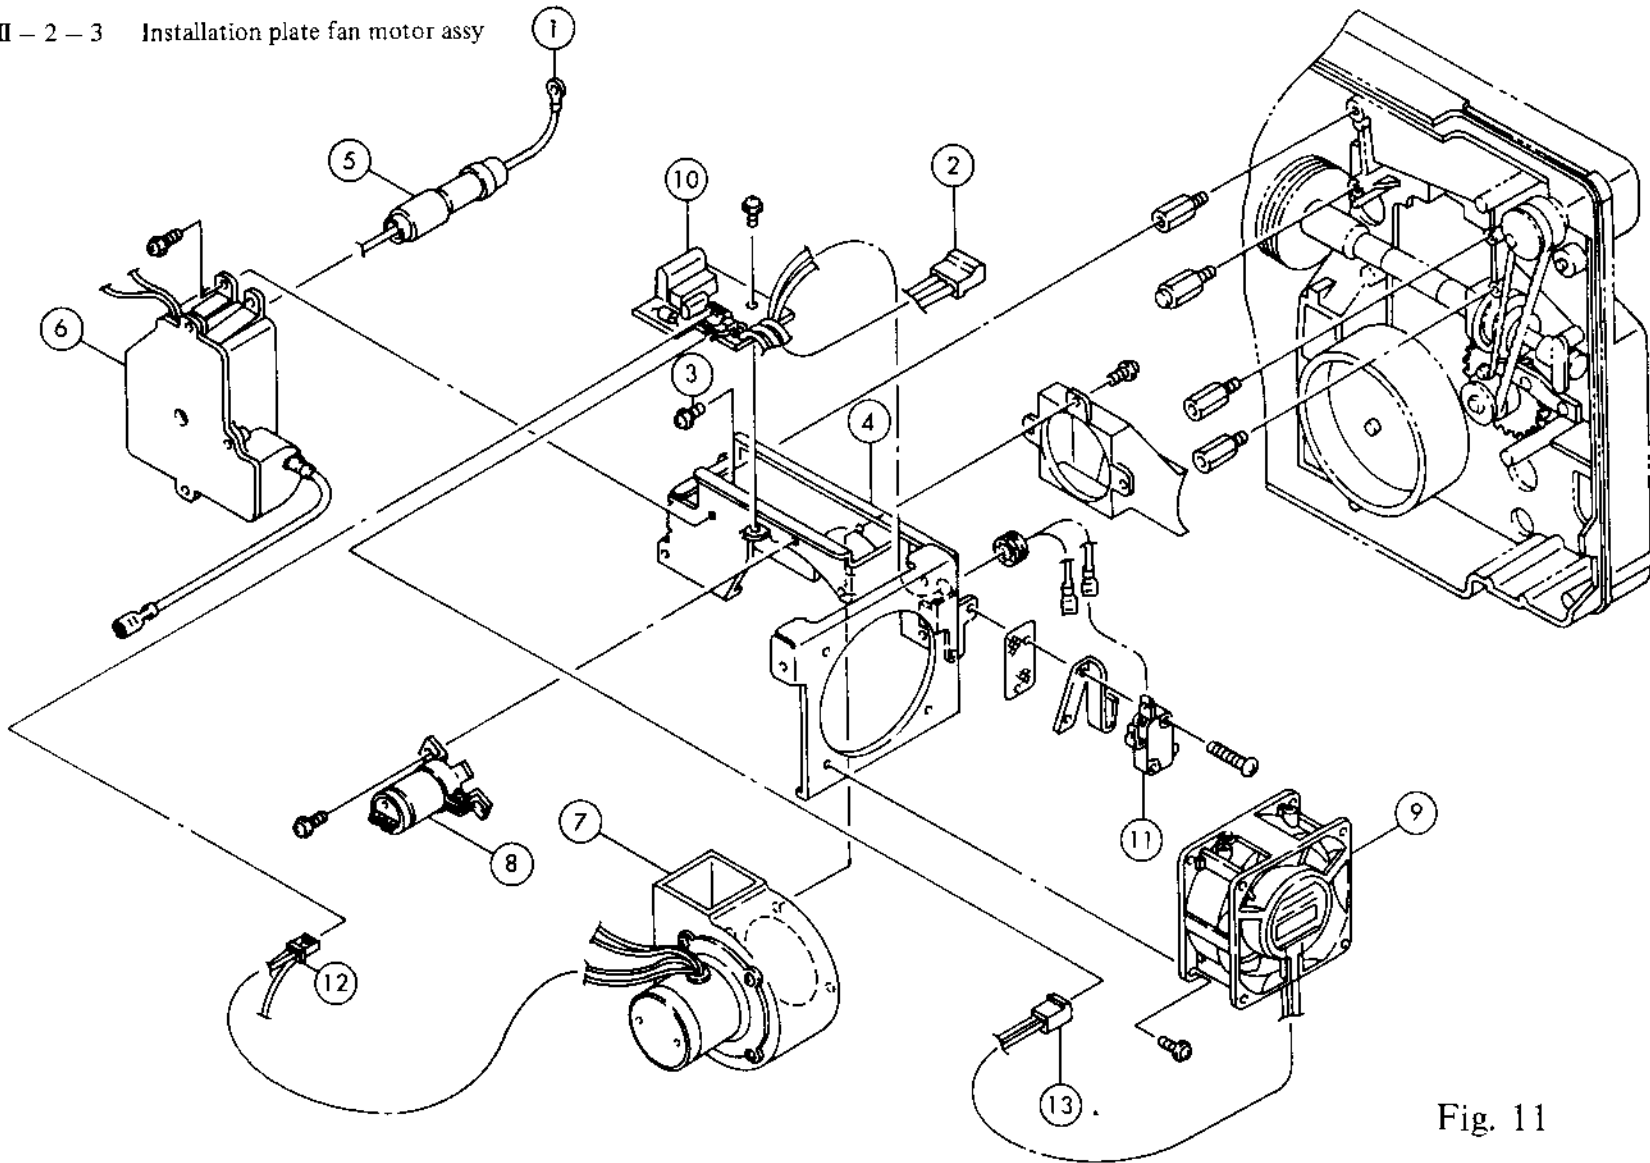

Fig. 11
1. Remove the connecting cord ① from the lamp.
2. Remove ② and ③ x 3, then remove the assy ④ by slightly lifting it up.
3. For further disassembly, refer to Fig. 11.